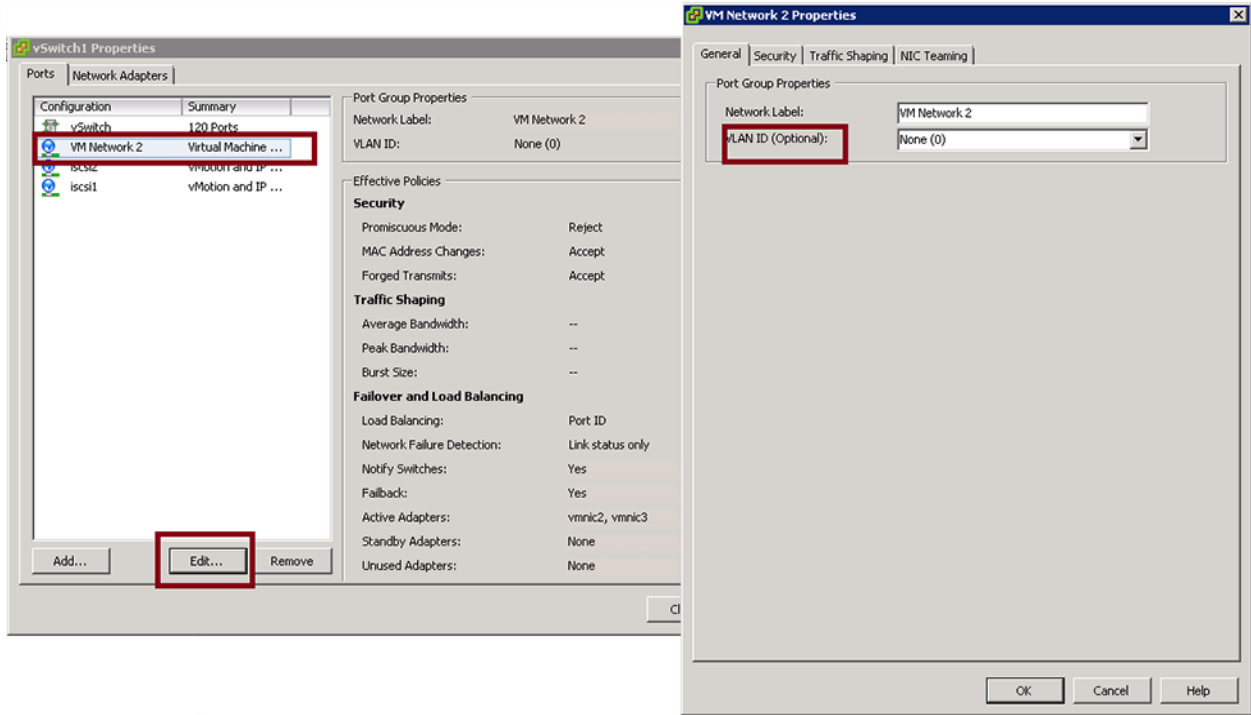
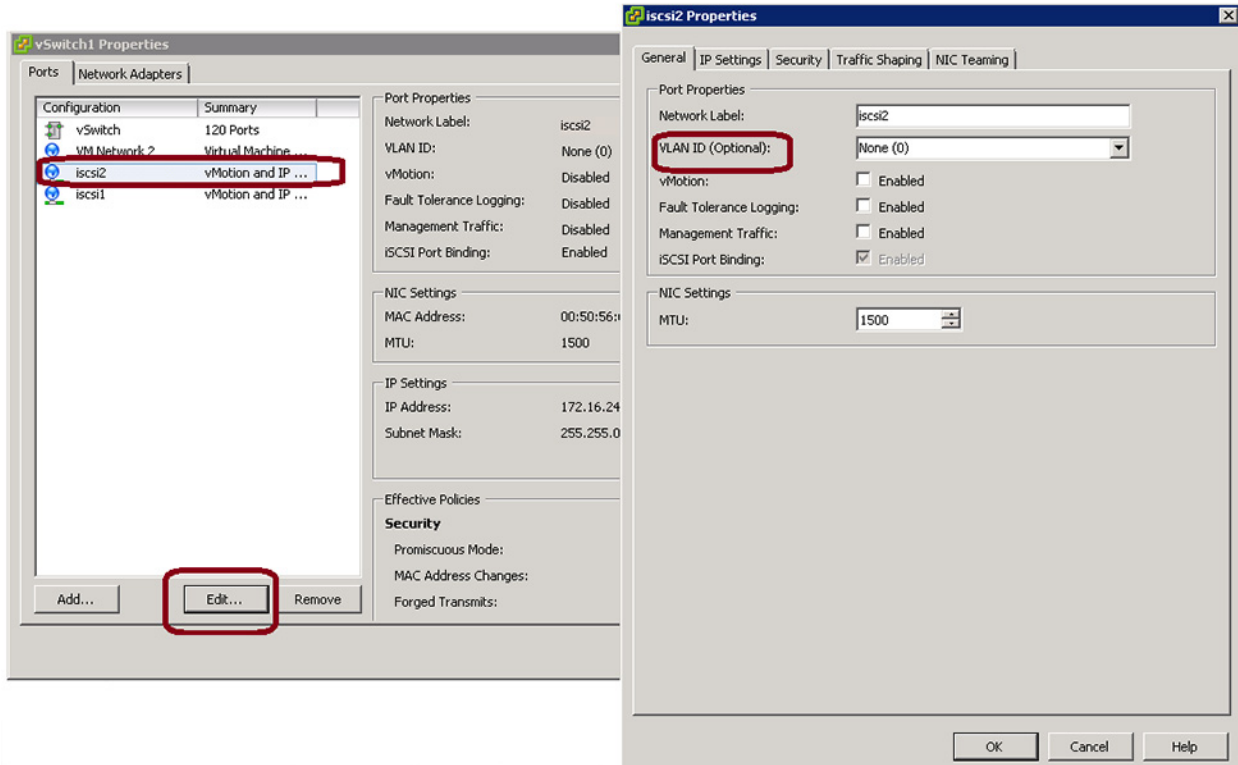

Figure 8-1. VM Network Properties: Example 1
Figure 8-2. VM Network Properties: Example 2
5. (Optional) On the VM Network Properties, General page, assign a VLAN number in the **VLAN ID** box. Figure 8-1 and Figure 8-2 show examples.